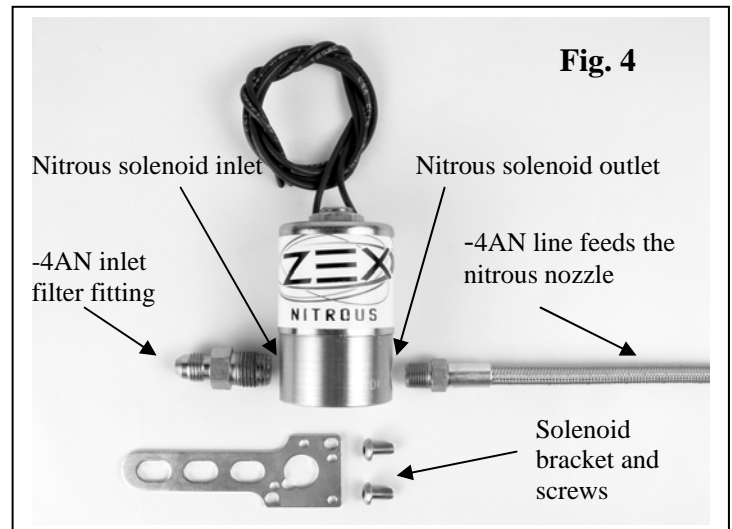

Fig. 4
4. Mount Nitrous Solenoid - Keeping in mind the length restrictions of the nitrous nozzle feed lines and nitrous delivery lines, mount the nitrous solenoids in the engine bay using the supplied brackets and screws (Fig. 4).
- Install the 1/8 NPT end of the 2ft. -4 nozzle feed lines into the nitrous solenoid outlets (Fig. 4). Install the nitrous jets in the nozzles for the desired power levels and attach the -3 AN swivel nut side of the nozzle feed line to each corresponding nozzle. Each individual nitrous stage can be jetted from 50hp-300hp, so the ZEX™ Race Diesel Nitrous System has a total combined maximum capability of 600 additional horsepower. **Remember, a nitrous jet's power rating is the maximum amount of additional power it can support, but this power level will only be achieved through additional fuel tuning.**